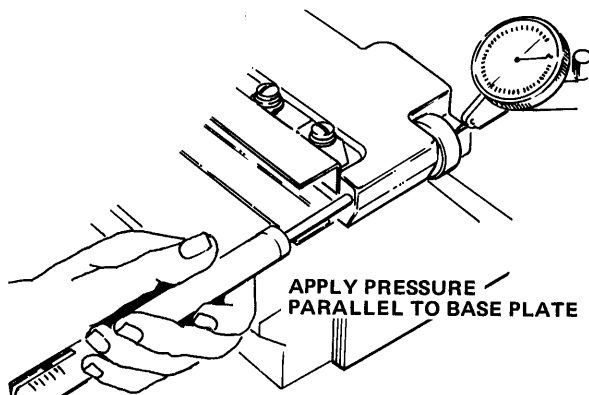

Figure 5-42. Carriage Pre-Tension Check
- f. Utilizing spring scale, push edge of carriage toward dial indicator (see Figure 5-42).